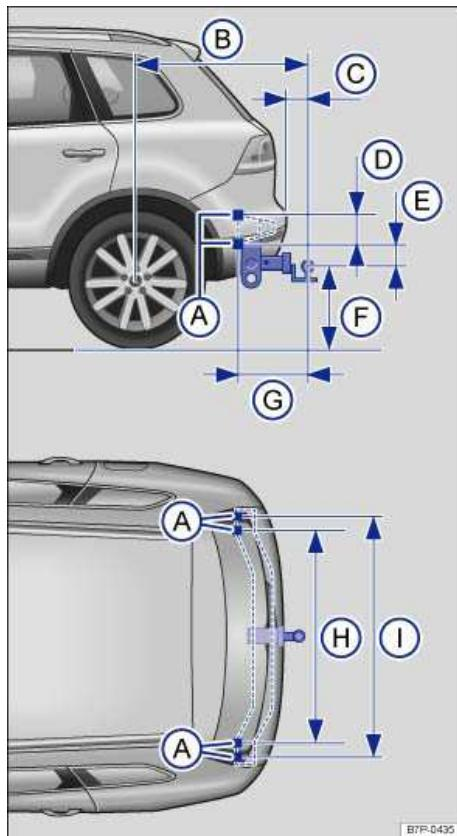

Fig. 109 Dimensions and attachment points for retrofitting a trailer hitch.
⇒ fig. 109 (F) be less than the specified minimum. This minimum height must be present even when the vehicle is fully loaded and subject to the maximum tongue weight.
Distance dimensions ⇒ fig. 109: